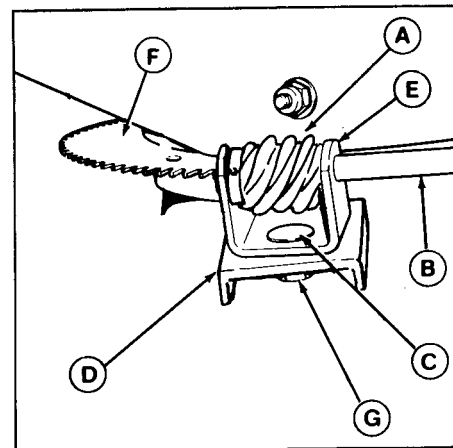

Figure 15. Discharge Control
If the discharge control is difficult to operate, first lubricate the pinion gear (A, figure 15) and ring gear (F). The pinion gear can be adjusted by loosening the nut (G) which holds the pinion gear bracket in the slotted hole. If the pinion gear is too tight against the ring gear, move it away slightly and then retighten the nut.